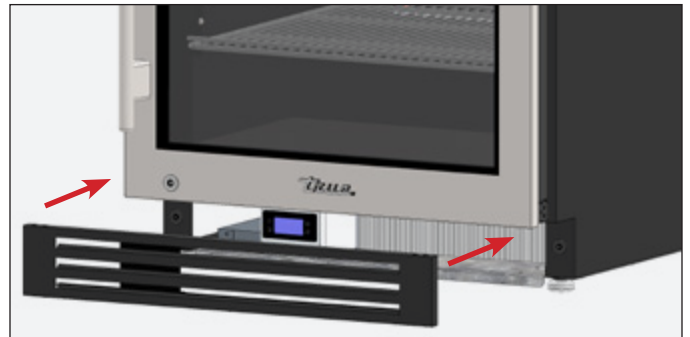

FIG. 1. Attach the kickplate to the magnets below the door.
2. Position the kick plate below the door. See fig. 1.